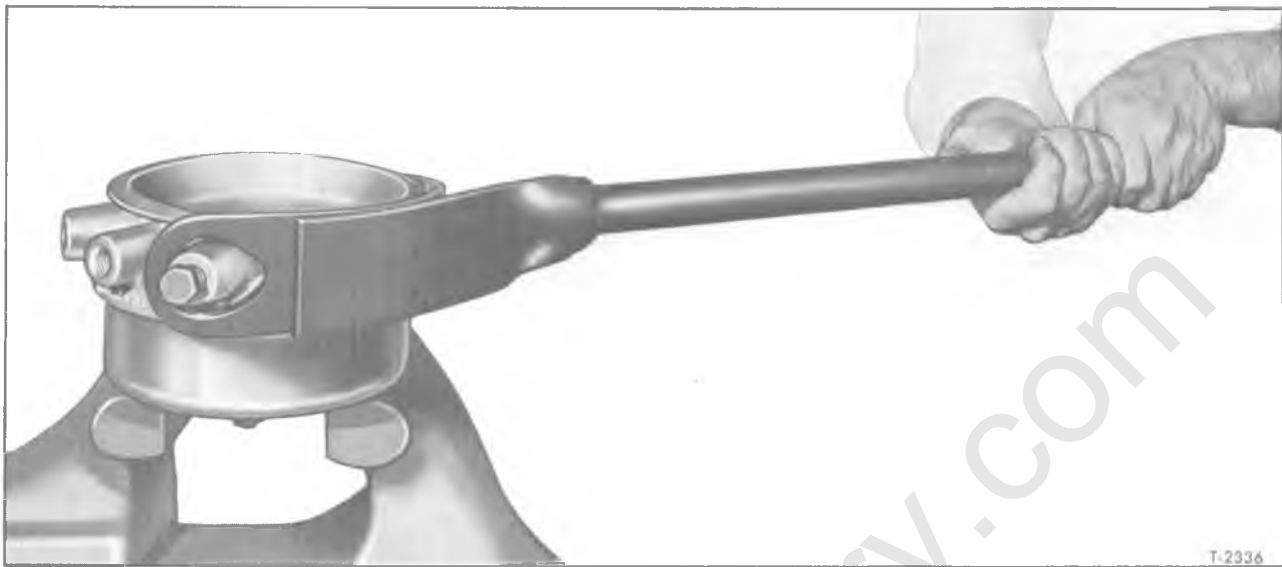

Figure 44—Removing Pressure Housing with "Strap" Wrench
**NOTE:** Do not tighten vise jaws enough to distort pressure from cap assembly. See figures 44 and 45 for illustration of this operation and dimensions to make a "strap" wrench.
3. Position rubber washer in pressure housing at bottom of internal threads. Thread cap and spring assembly into pressure housing and tighten firmly against rubber washer. This may be done with "strap" type wrench (see figures 44 and 45)